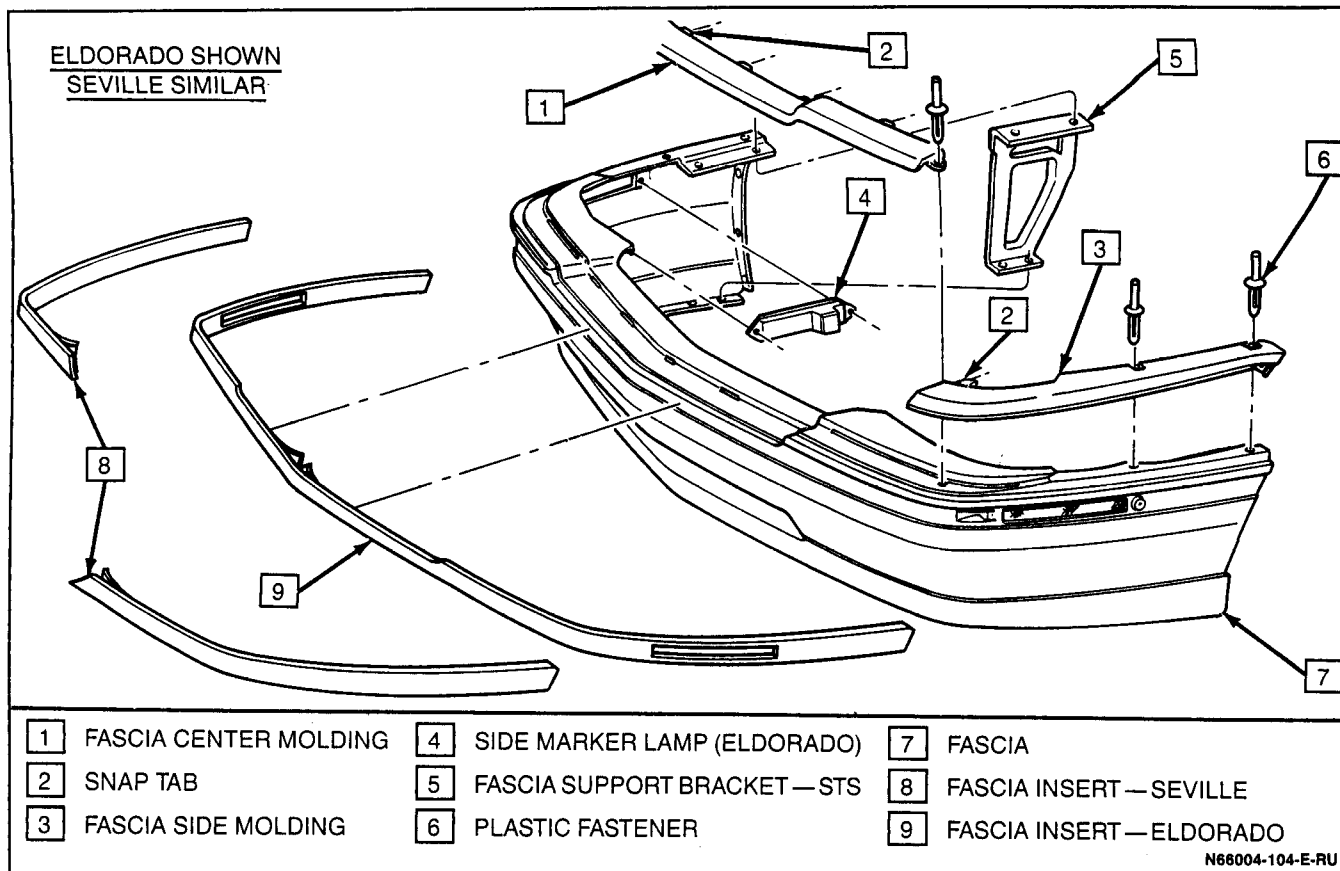

Figure 10-4-4 Front Bumper Disassembly
**Disassemble****Figures 10-4-4 and 10-4-5**
3. Four (Eldorado) or two (Seville), plastic fasteners retaining fascia to impact bar (13).
4. Pry fascia (7) from impact bar upper snap tabs.
5. Impact bar (10).
6. Plastic rivets (6) retaining upper fascia side moldings (3). Release snap tab and remove molding.
7. Two plastic rivets retaining center molding (1).
9. Two screws securing side marker lamp (4) to fascia (Eldorado).